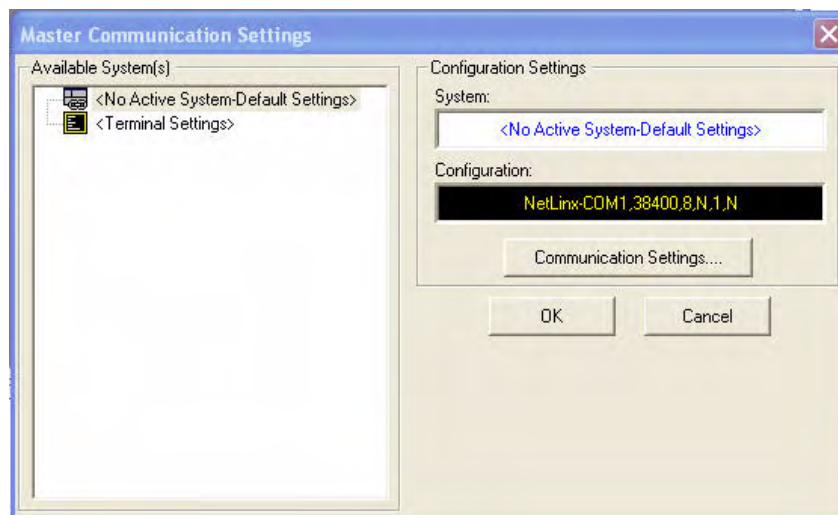

FIG. 36 Master Communications Settings dialog box
2. In NetLinx Studio, select **Settings > Master Communication Settings**, from the Main menu to open the *Master Communication Settings* dialog (FIG. 36).